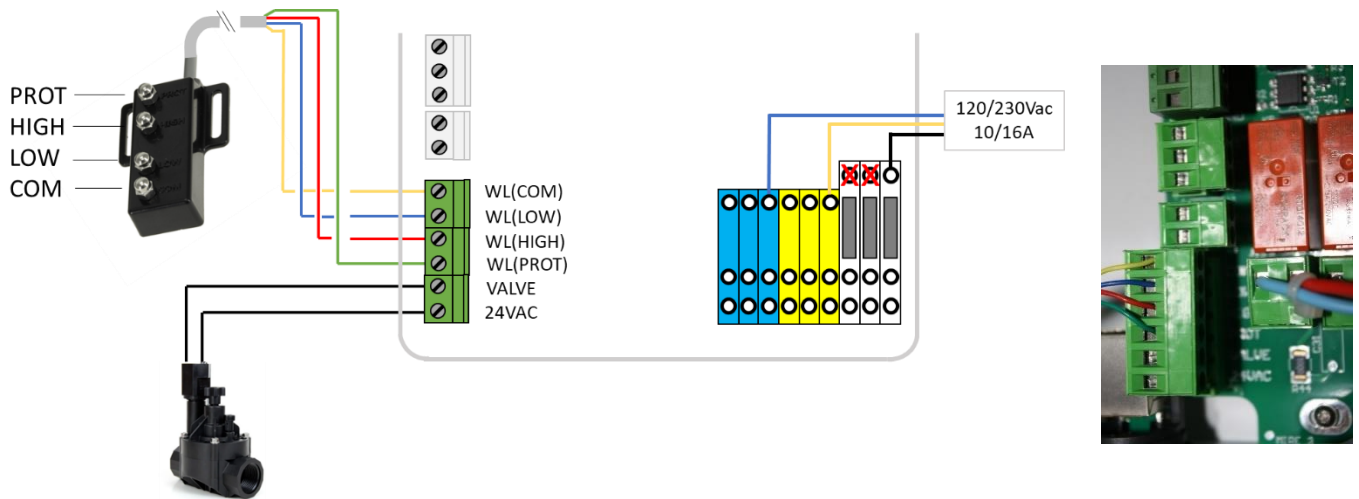

Figure 57 - Connecting Water Level
- ❑ Connect the 4 cores to the connector on J20 (see Figure 57 - Connecting Water Level).
- ☐ Connect the 2-core wire from the valve solenoid to the connector on J20 marked (VALVE) according to Figure 57 - Connecting Water Level. Polarity is not important.